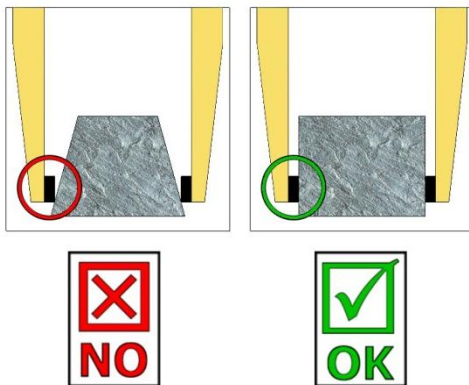

Fig. 1
- Transportation of **non rectangular** and **round** gripping goods, because they could fall down. (→ Fig. 1)